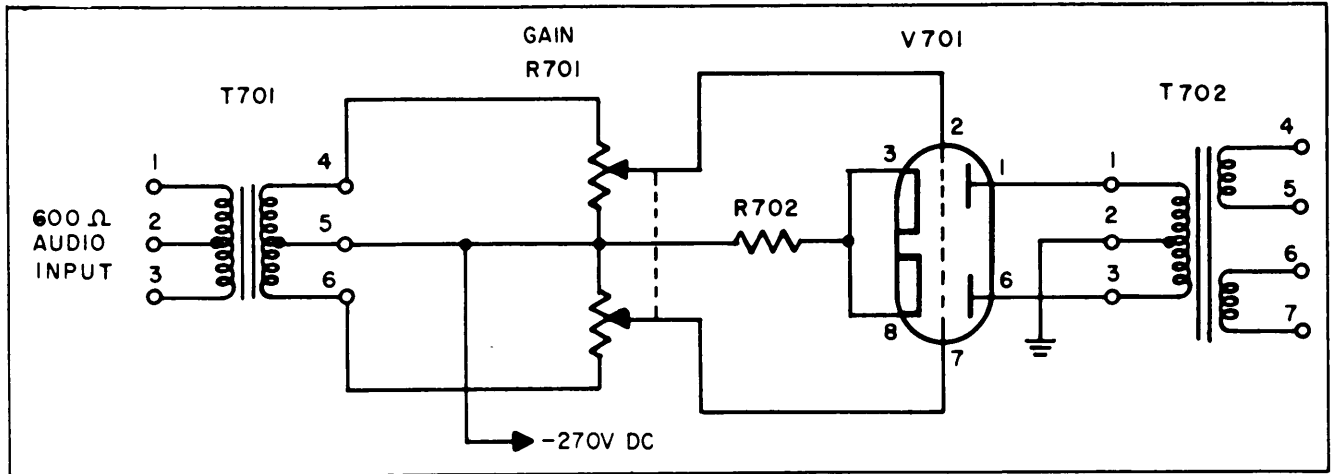

Figure 4-18. Push-Pull Audio Amplifier V701, Simplified Schematic Diagram
(1) PUSH-PULL AUDIO AMPLIFIER V701. - The audio input on the 600-ohm line is applied across T701. (See figure 4-18.) The audio developed across the secondary of T701 is applied to the grids of V701 through GAIN potentiometer R701 which is used to adjust the input level at the grids. The GAIN potentiometer is ganged in such a manner as to adjust equally the input level to both grids of V701. The output of V701 is impressed across T702 which is grounded at the center tap to develop equal signal amplitudes in both halves of the divided transformer. The push-pull amplifier utilizes a basic configuration, with each section of the tube being driven in alternate half cycles. The output of V701 is applied to push-pull modulator driver V702 and V703.